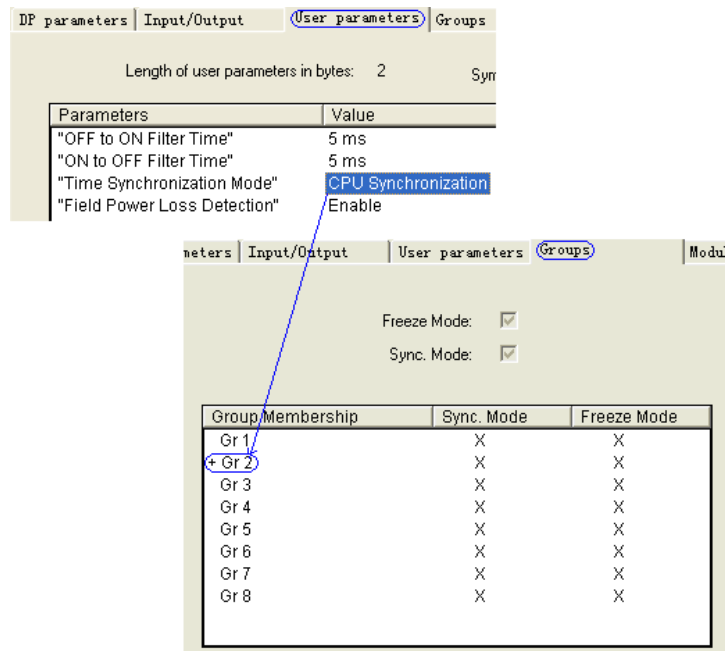

Figure 10.13: Setting of Group under Controller Synchronization Mode
- The controller is configured to send time package to Group 2, so that LK630 module shall be added into Group 2 to receive the synchronization information. As shown in Figure 10.13, to add the module, the “Gr2” of its hardware parameter “Group” tab shall be selected and clicked on to add a “+”.